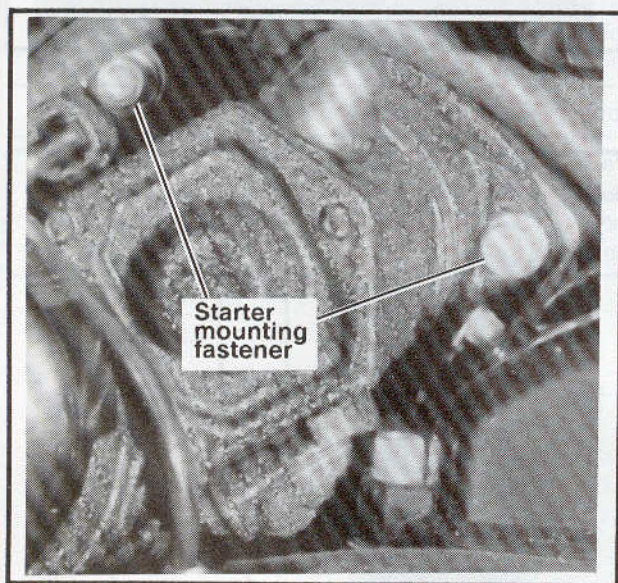

Figure 5-5. Starter Mounting
5. See Figure 5-5. Remove the starter mounting allen head bolts and washers.
3. See Figure 5-5. Install the two starter mounting bolts and washers. Tighten mounting bolts to 13-20 ft-lbs torque.
Do not disassemble solenoid. Before testing, disconnect field wire from terminal "C", shown in Figure 5-5.